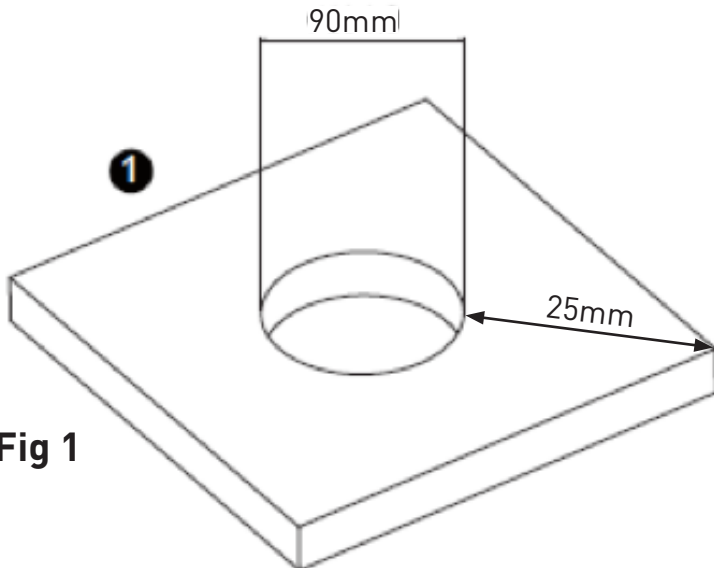

Fig 1
- Cut a 90mm hole in the surface, allowing a 25mm clearance around the hole (see Fig 1)